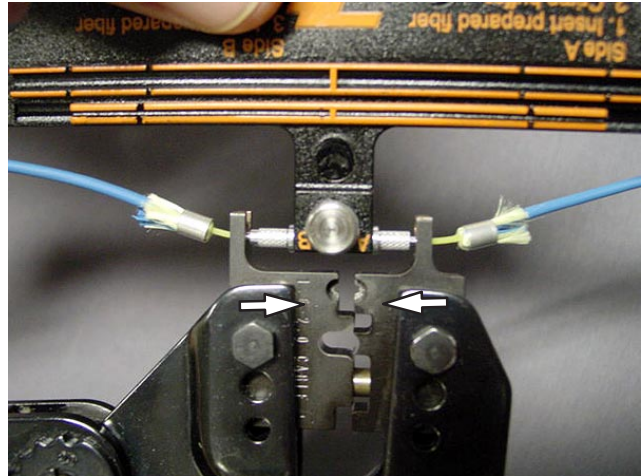

Figure 83
10. Insert the splice into the die set and slowly close the crimp tool handles until the ratchet releases. Slowly open the tool and remove the splice assembly. As the tool opens, pull it away from the splice to avoid touching the jacket with the die set. See Figure 83.